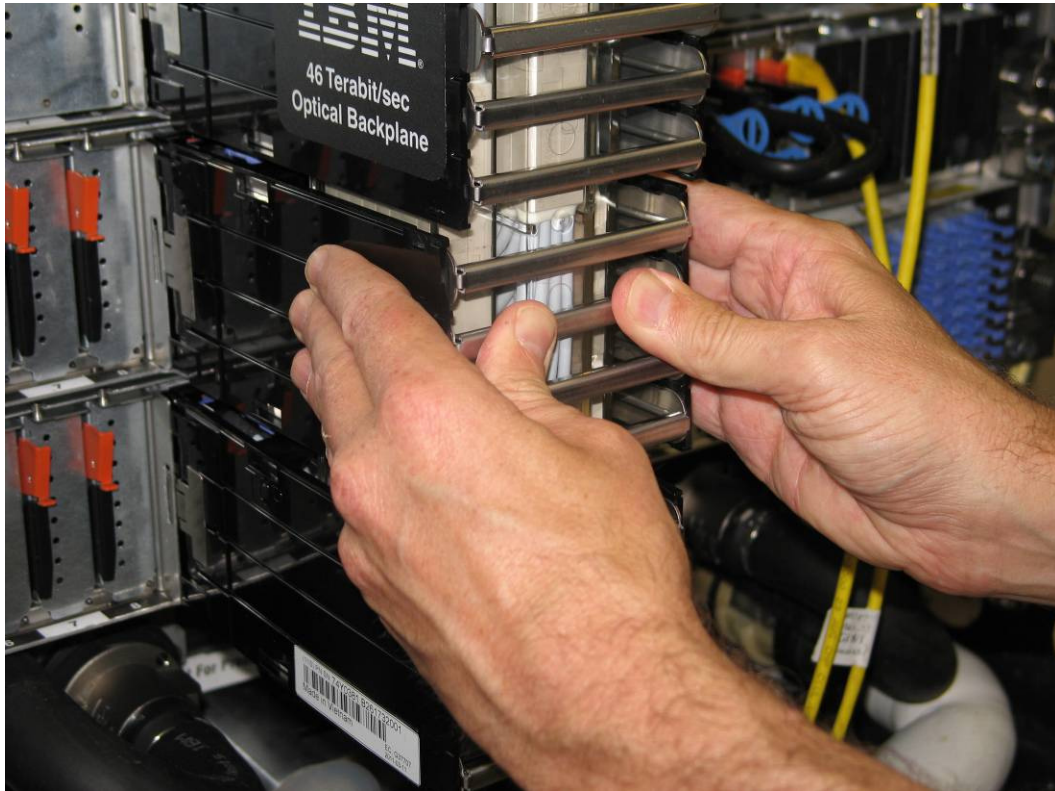

Figure 41 OBE Installation
- Once all 4 handles are slid forward with the L-Link connectors in the L-Ports of the adapters, do the final actuation of the handles, see Figure 41. This requires pushing the handle forward forcefully, hard enough to simultaneously seat the 12 connectors. It requires approximately 20 lbs of force for each handle to fully actuate all 12 connectors during insertion. When the connectors are fully actuated, an audible "click" will be heard, as all 12 connectors click into place.